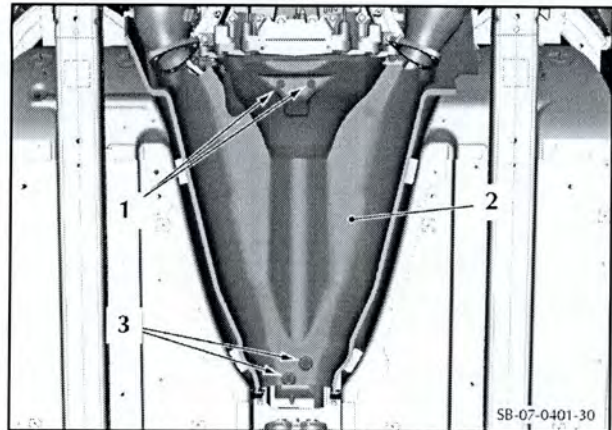

Figure 39
78. Put the heat shield (2) into position (refer to Figure 39).
79. Install the two screws (3) that attach the rear of the heat shield (2) to the torque tube. Torque the two screws to 9 Nm.
80. Install the two screws (1) that attach the front of the heat shield (2) to the torque tube. Torque the two screws to 9 Nm.